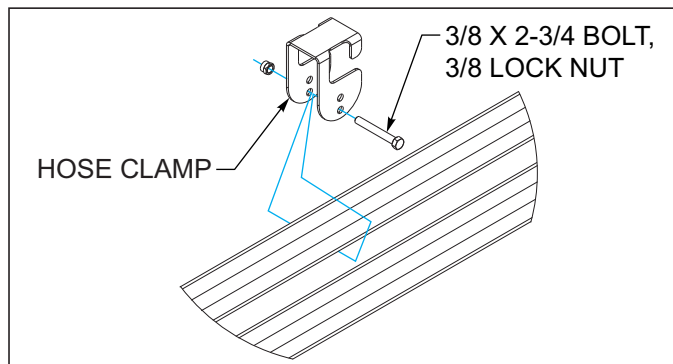

Figure 3-9: Hose Clamp Installation
11. Attach hose clamps to the center and wing frames **See Figures 3-9** using 3/8 x 2-3/4 hex head cap screws and 3/4 lock nuts.